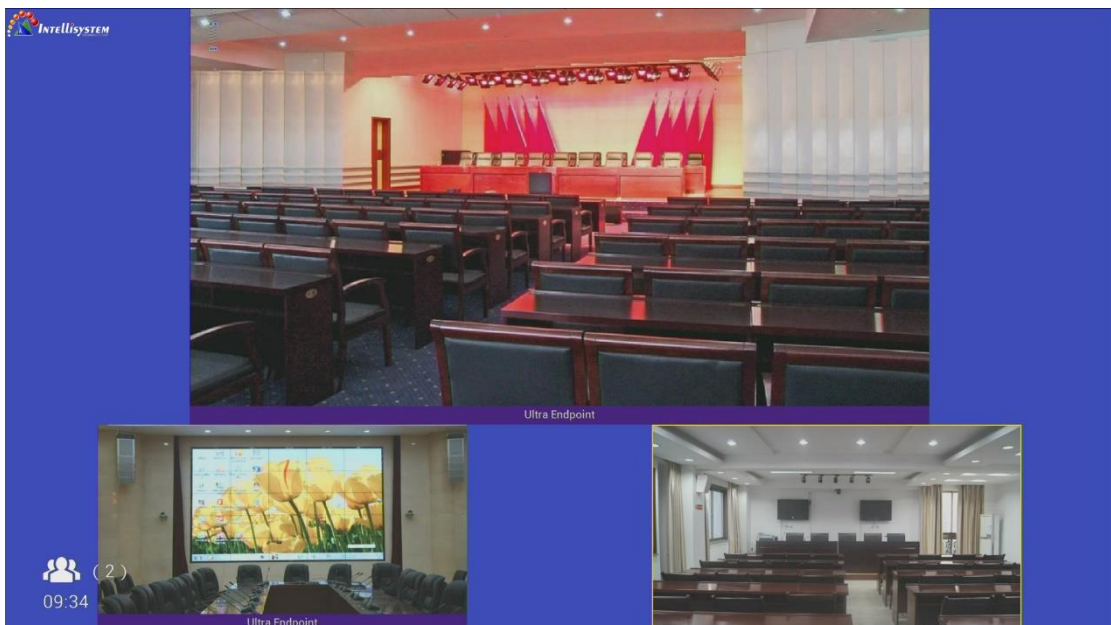

Figure 5-5-1
- Select “Answer” and press “OK” button on remote control to add the new incoming call, when the terminal will enter the multipoint videoconference mode, as Figure 5-5-1 shows.